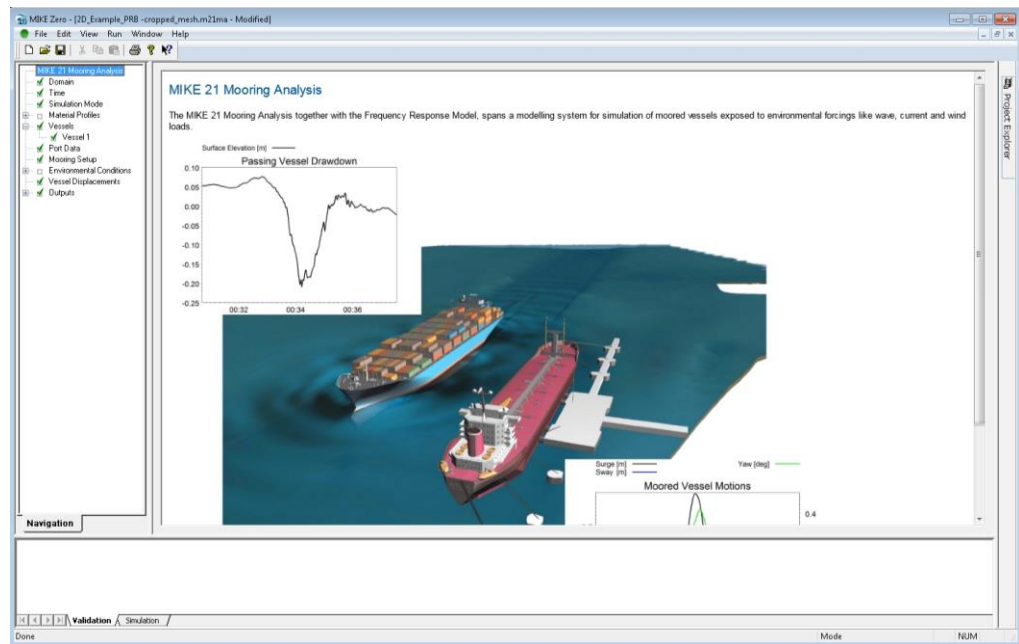

Figure 3.15 M21 MA main page
1. Open a new instance of the (.m21ma) editor as showed in Figure 2.4, by clicking OK. The M21 MA main page (Figure 3.15) should appear on the screen.